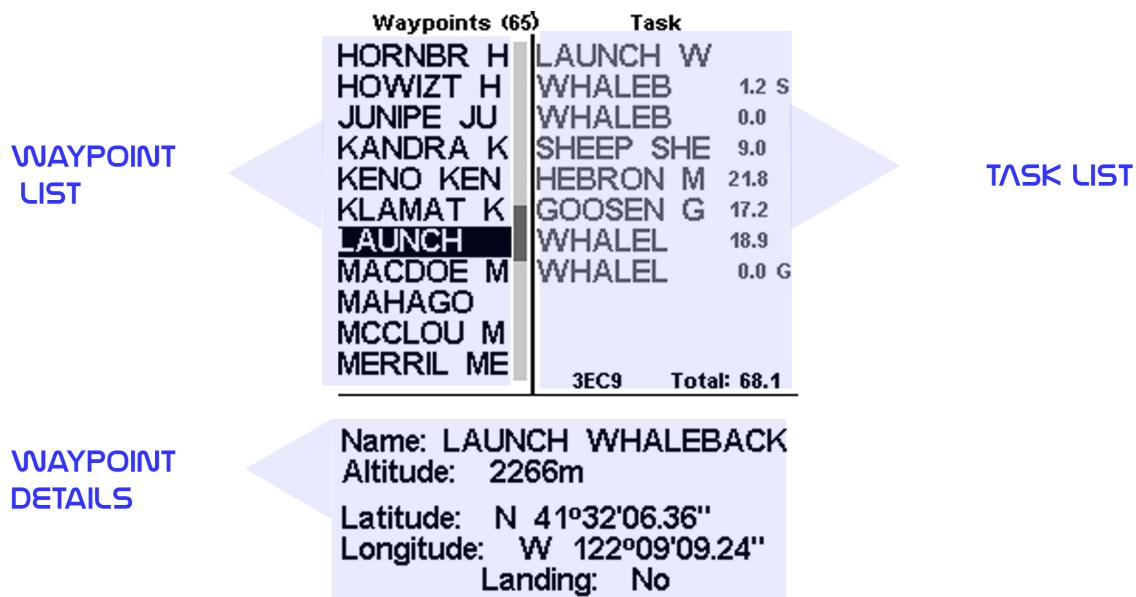

Figure 4.2: Waypoints and TaskScreen
The Waypoints/Taskpage allows the user to manage waypoints, and define a route/task. As shown in Figure 4.2, the page is divided into 3 areas, namely the waypoint list (WL); Tasklist (TK) and selected waypoint details/options list (DO). The DO area can change according to which submenu you are in. Specifically, it can show the selected waypoint data, or a list with possible actions for the waypoints.